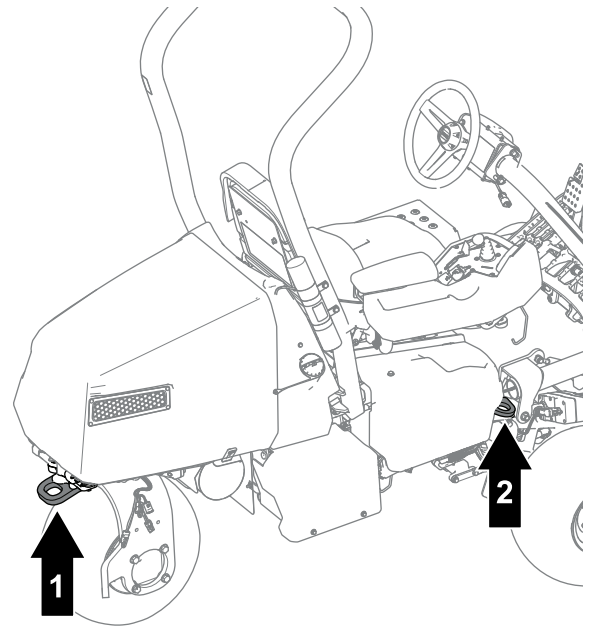

Figure 32
- Tie the machine down securely using straps, chains, cable, or ropes. Both front and rear straps should be directed down and outward from the machine (Figure 32).